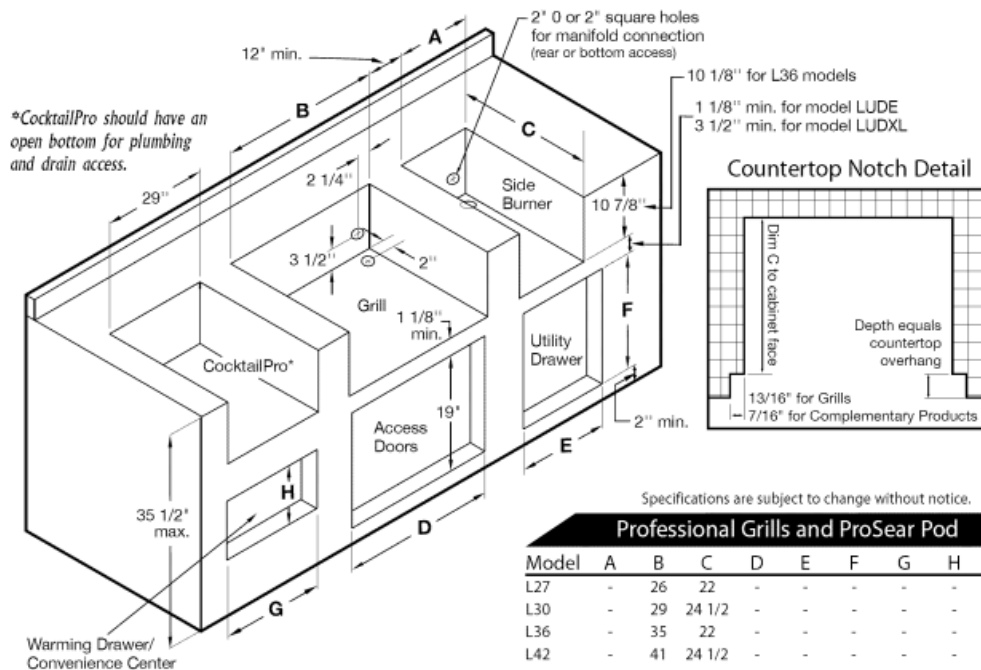

**Figure 4-1** - Required clearance to allow opening of front hood.
- Clearance is required behind the grill to allow the front hood to open (see figure 4-1). 27" and 36" models require a minimum of 2" clearance, while 30", 42" and 54" models require a minimum of 4" clearance.